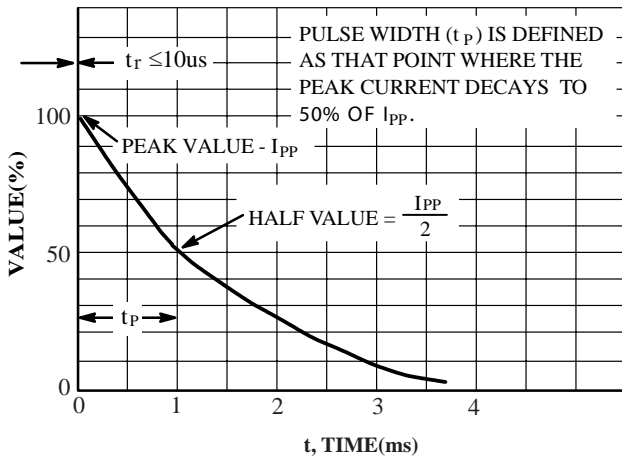
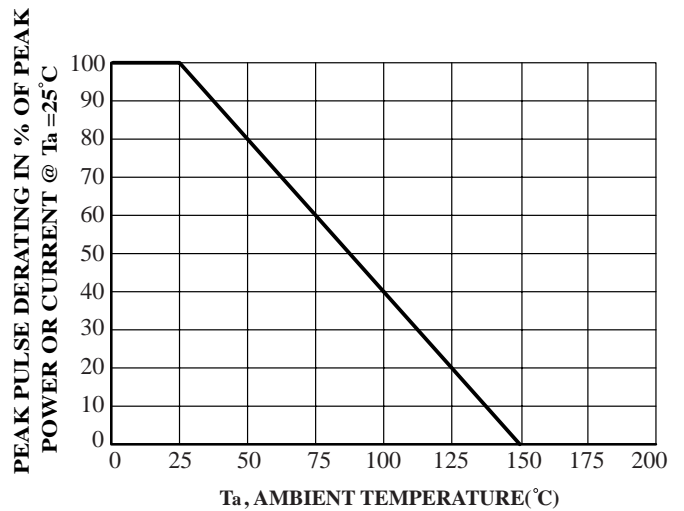

FIG.5 Pulse Waveform
FIG.6 Pulse Derating Curve
NOTE: 1. Non-Repetitive Current Pulse, per FIG 5 and Derated above $T_A = 25^\circ\text{C}$ per FIG 6.
6. Surge current waveform per Fig 5 and derate per Fig 6